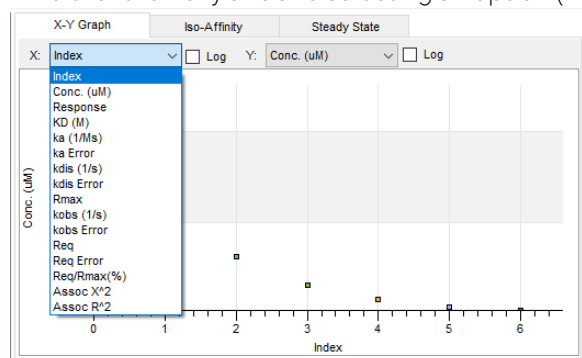

Figure 5-21: Variable Selection for X and Y Axis
- **Changing the x/y variables** - You can choose which variables to plot by selecting the drop down menu next to either the x or y axis and selecting an option (Figure 5-21).